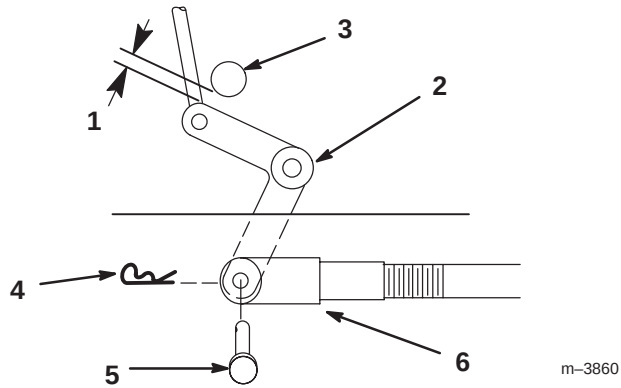
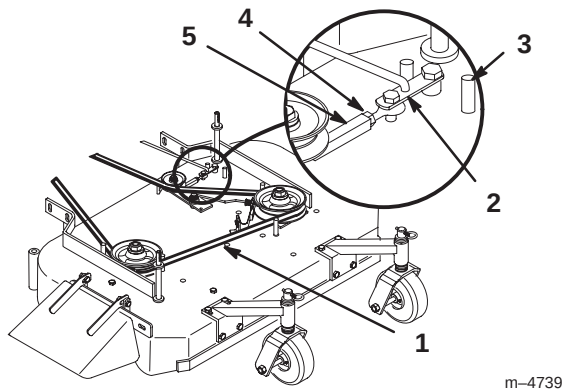

Figure 48
Figure 49
3. Remove mower belt (Fig. 49).
7. Install the mower belt (Fig. 49).
7. Engage PTO lever and check the clearance between the bellcrank and the transmission output shaft (Fig. 48). Space should be 1/16–1/8 in. (2–3 mm).
8. Remove hairpin cotter and clevis pin from bellcrank. Rotate clevis clockwise on rod to increase or counterclockwise to decrease clearance (Fig. 48).
9. Disengage the PTO. If the assist arm does not contact the front stop on the mower deck (Fig. 49), readjust the clevis to bring the bellcrank closer to the transmission output shaft (Fig. 48).
2. Loosen locknut on turnbuckle (Fig. 49).
3. Rotate turnbuckle toward rear of mower to increase tension on belt. Rotate turnbuckle toward front of mower to decrease tension on belt (Fig. 49).